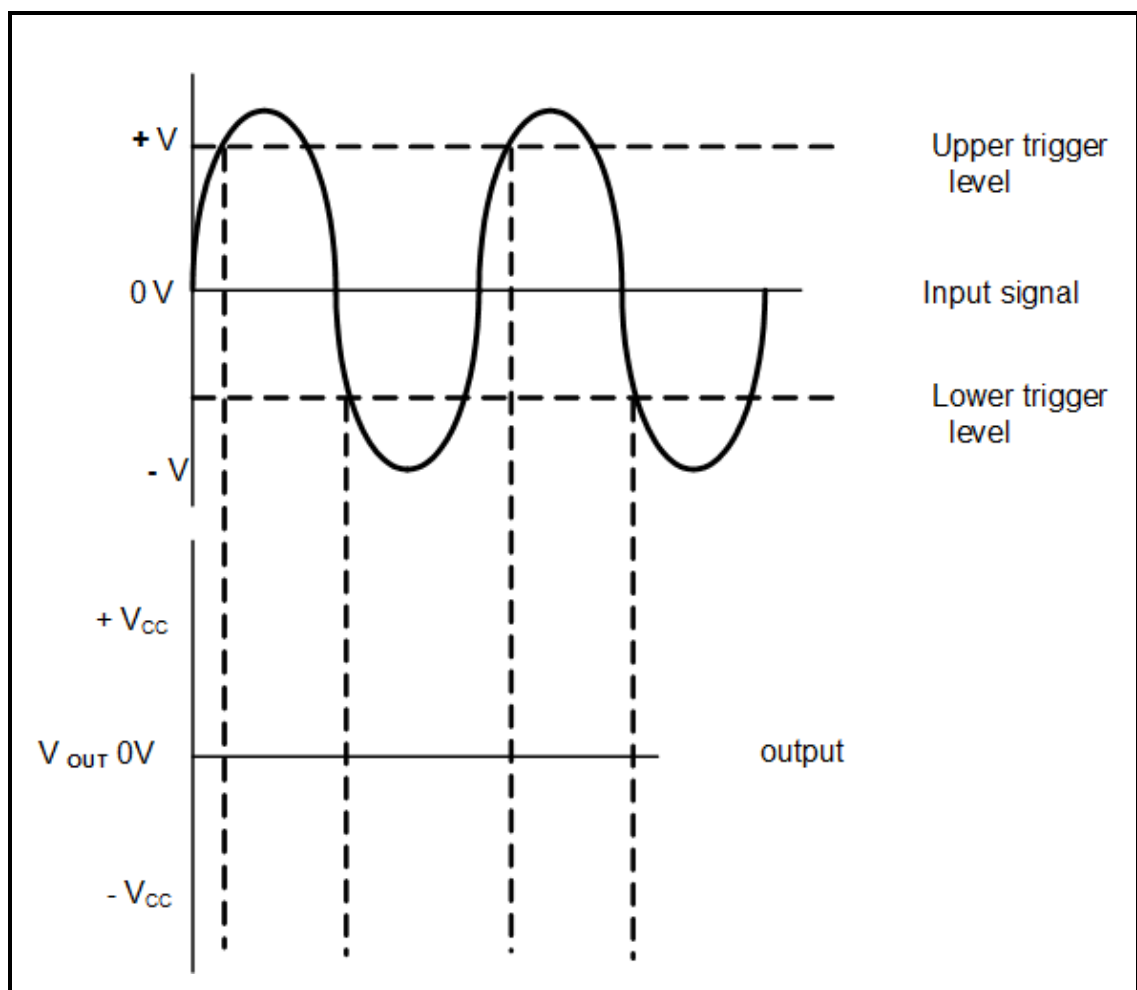

FIGURE 7.10: INPUT SIGNAL TO A SCHMITT TRIGGER OP AMP
- 7.10 FIGURE 7.10 below shows the input signal to a Schmitt trigger op amp. Draw the input signal and directly below that, on the same y-axis, draw the output signal when the Schmitt trigger is connected in the inverting configuration.